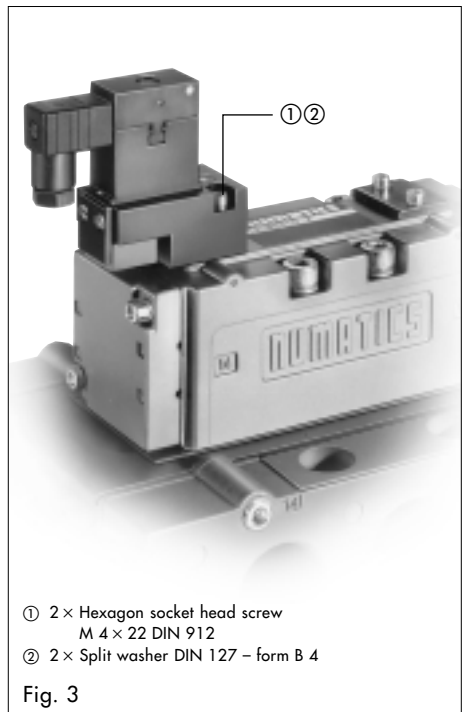

Fig. 3
Devices with adapter plate and diaphragm switch are attached to the booster valve with two hexagon socket head screws ① and two split washers ② (see Fig. 3). Be sure to check that the two O-rings or seals at the CNOMO interface of the booster valve are positioned correctly.